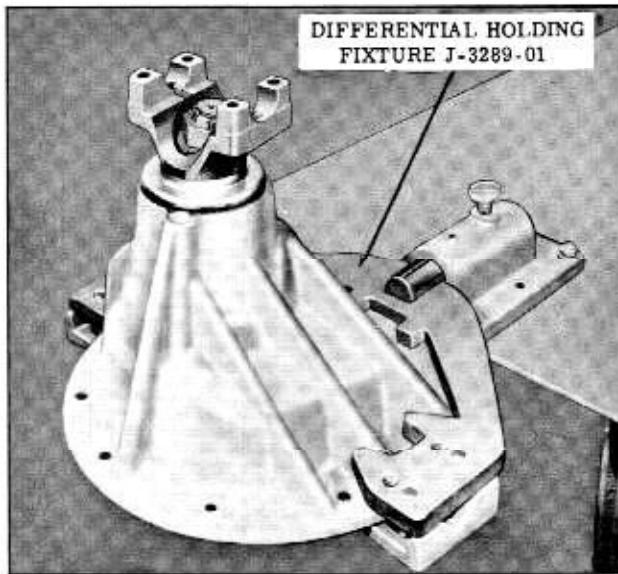

Fig. 6-13 Holding Fixture
1. Mount differential in Holding Fixture J-3289-01. (Fig. 6-13)